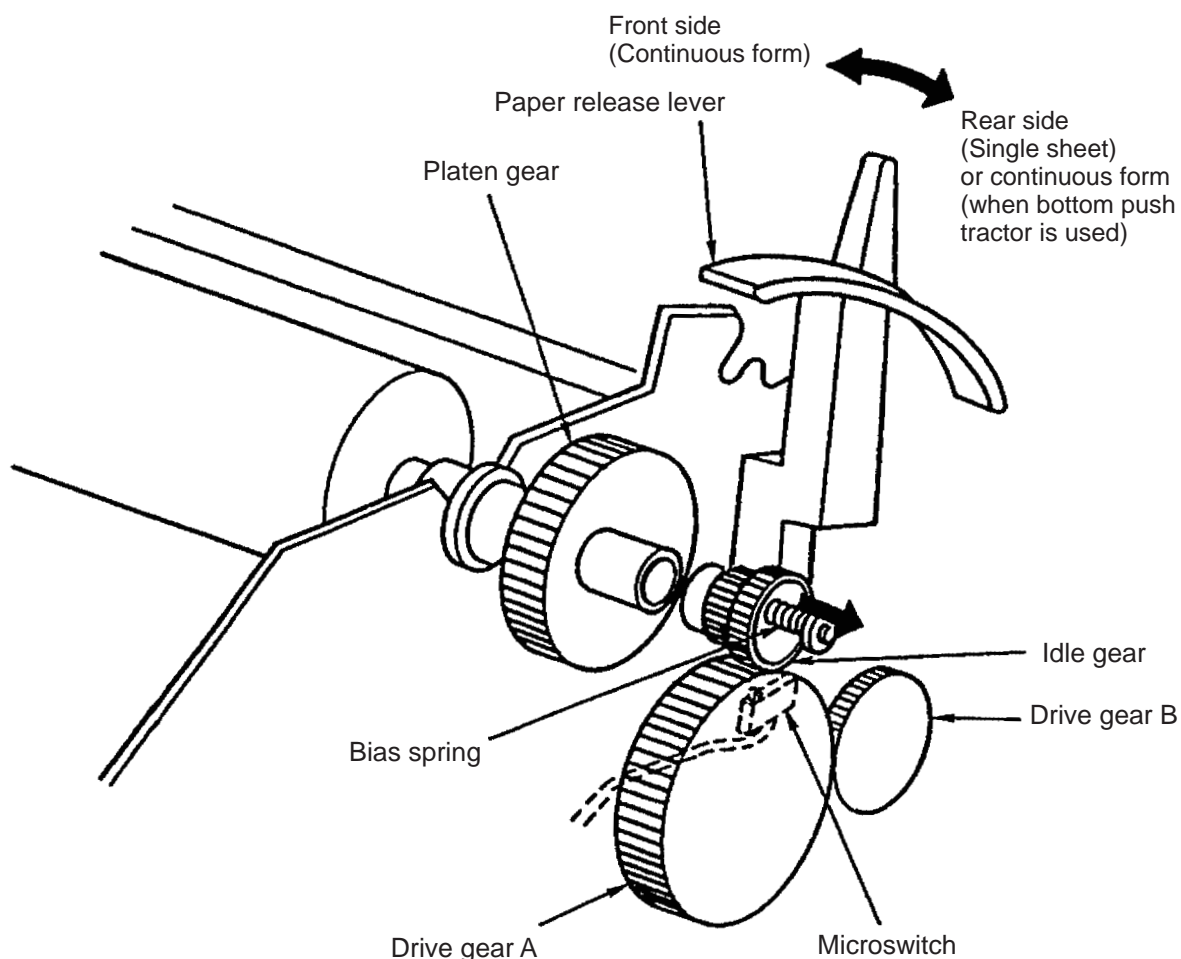

Figure 2-9 Single sheet and continuous form selection
(3) Single sheet and continuous form selection mechanism (See Figure 2-9)